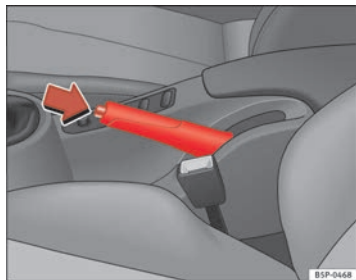

Fig. 151 Handbrake between the front seats
- Pull the handbrake lever up firmly ⇒ fig. 151.
- Pull the lever up slightly and press the release knob in the direction of the arrow ⇒ fig. 151 and guide the handbrake lever down fully ⇒ ⚠.